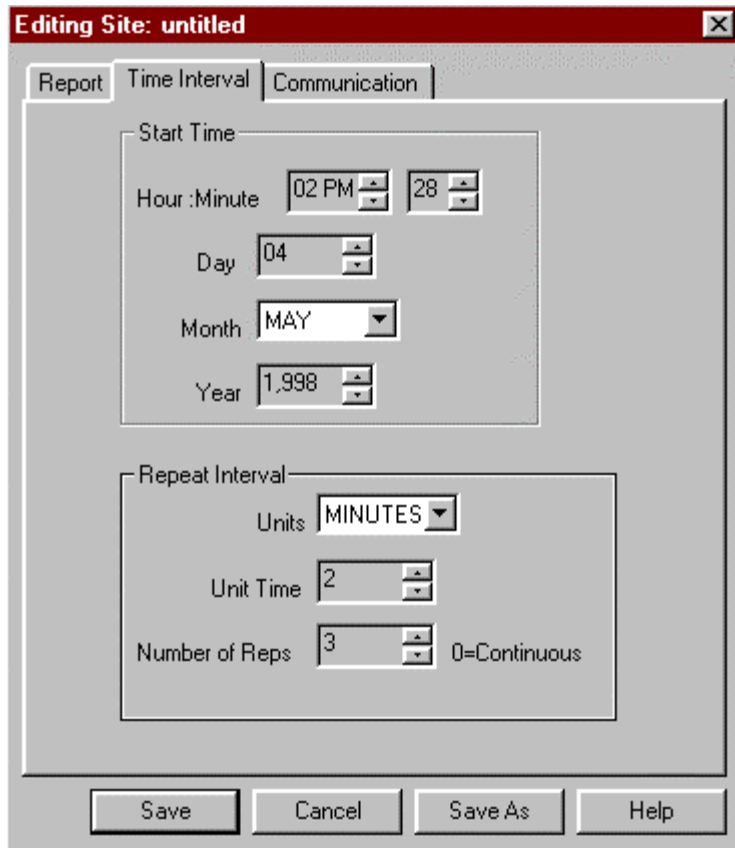

Figure 5.1.3b Time Interval Tab, Example 5.1
4) Select the following Time Interval options as illustrated in figure 5.1.3b below: